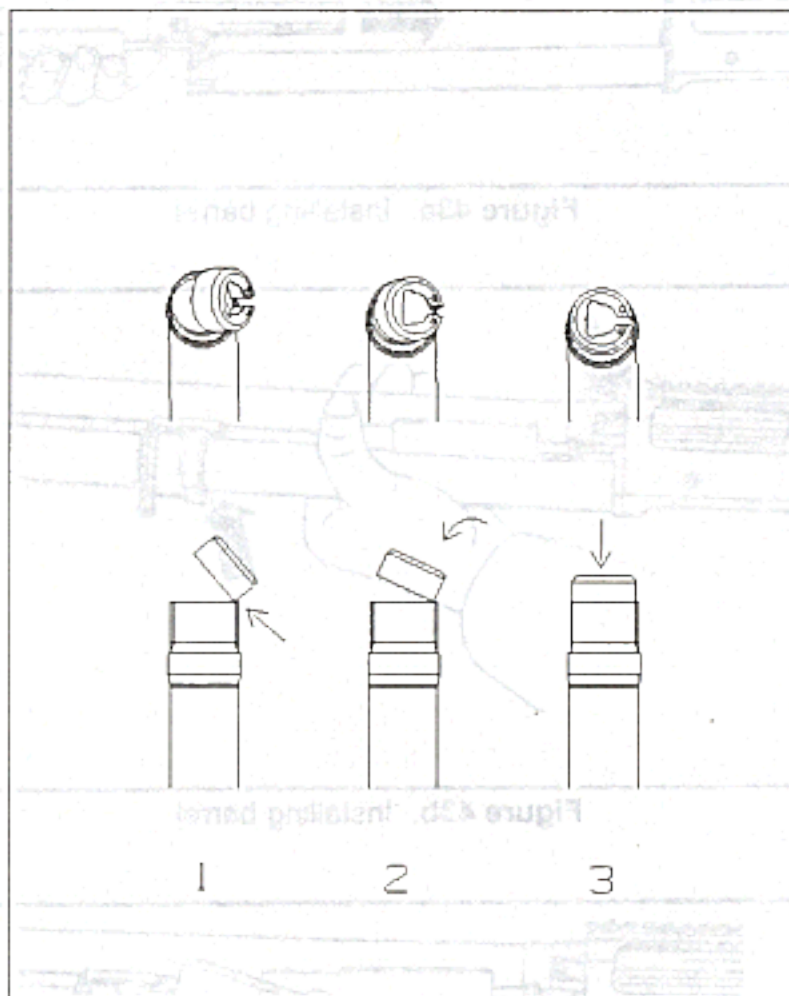

**Figure 41.** Correct positioning of the link at the opening of the recoil spring tube
**Check bolt movement** – Holding the shotgun parallel to the ground, push rearward on the bolt handle to insure that the link and recoil spring tube are aligned (**Figure 41**) and that the bolt can move freely back and forth in the receiver.